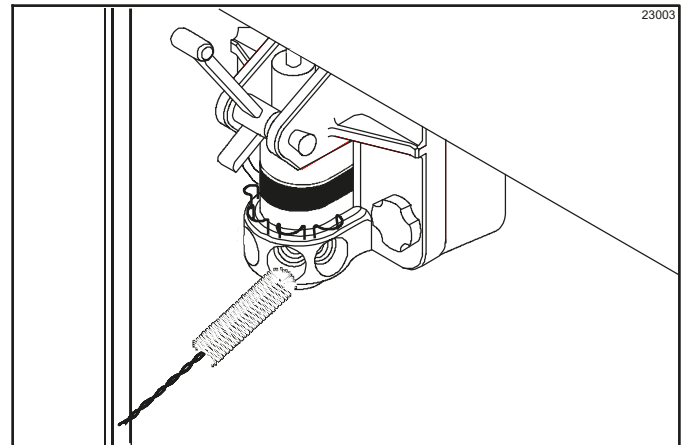

Figure 6-52
6. With the syrup-port brush, brush each syrup-port hole 10 to 15 times. Dip the brush in solution before brushing each port. (See Figure 6-52.)